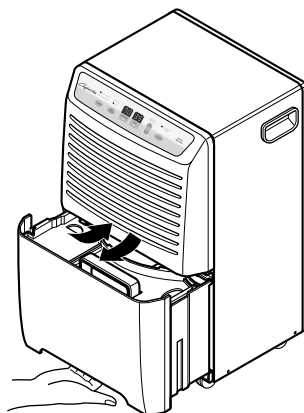

Figure 8
3. Remove the bucket. (See Figure 8)